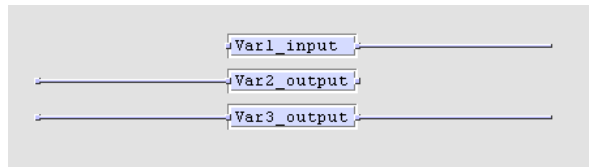

Figure 69: Direction of global variables
- The direction of the variable is determined based on the graphical representation, shown in Figure 69.